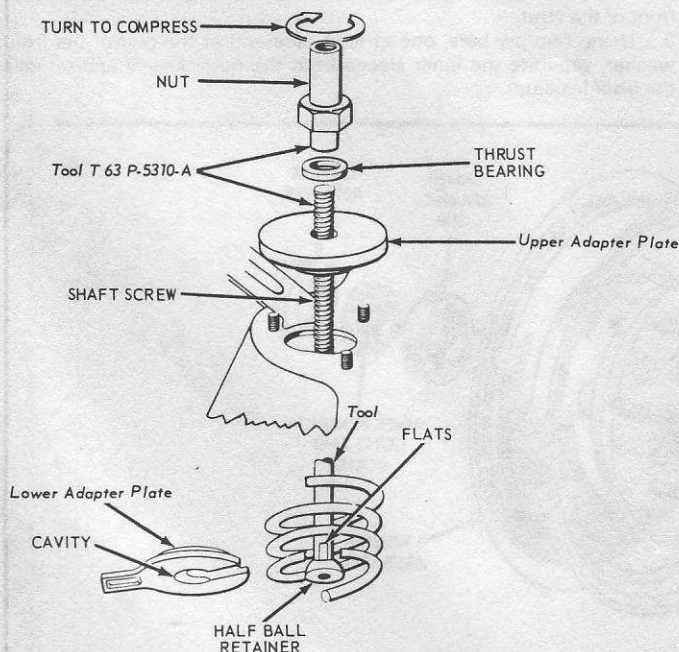

Fig. 11.8 Installing the spring compressor tool (Sec 6)
- 4 Install a spring compressor tool (see Fig. 11.8) and compress the spring to remove all tension from the control arms.